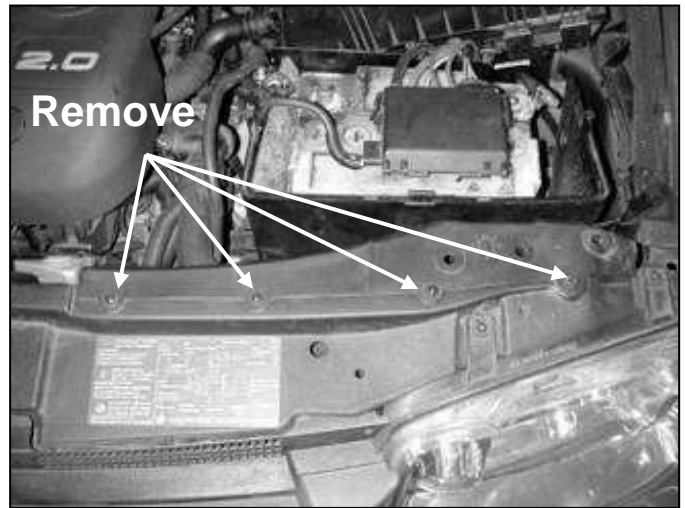

Fig. 2
- b. Remove the four screws along the top of the radiator support. **(Fig. 2)** Remove the two plastic covers.